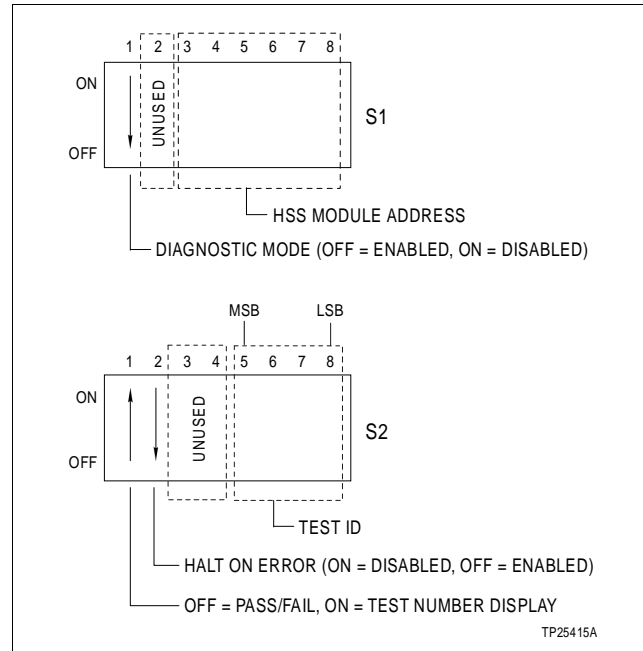

Figure 6-2. Diagnostic Dipswitch Settings
Pole one of dipswitch S1 puts the IMHSS03 module into diagnostic mode (see Figure 6-2). Poles eight through five of dipswitch S2 select the diagnostic test to run. Pole eight is the least significant bit (binary weight one), pole five is the most significant bit (binary weight eight). Test IDs range from zero to nine. Refer to Table 6-1 for test ID values.
2. X = selects LED display mode. See Figure 6-2 for pole 1 settings.
3. Y = selects halt on error or continuously loop the tests. See Figure 6-2 for pole 2 settings.
1. Set dipswitch S1 pole 1 to position 1 (off) to select the diagnostic mode (see Figure 6-2).
2. Set dipswitch S2 pole 1 to select the LED display mode. Figure 6-2 shows the display mode settings.
3. Set dipswitch S2 pole 2 to select the halt on error feature (see Figure 6-2).